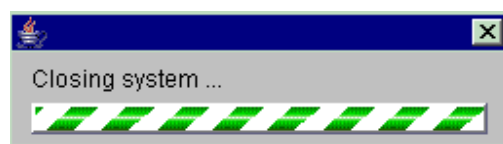

Figure 129 : Closing system bar graph
- If the system has not been modified, a *Closing system* bar graph (Figure 129) indicates its closure.